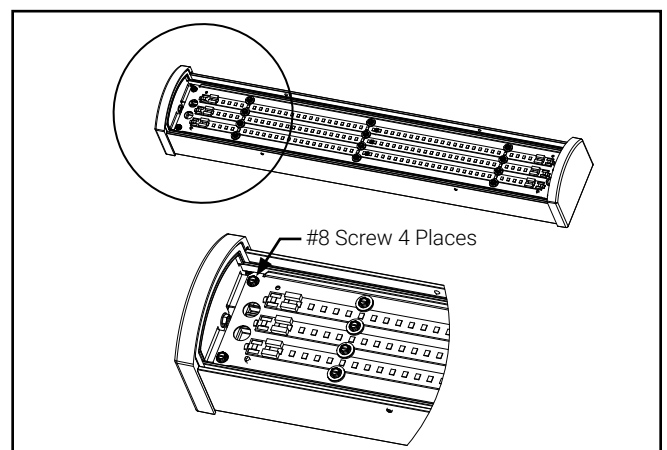

Figure 2.
3. Remove LED gear tray from housing. Remove 4 screws on ends of gear tray to allow access to inside of channel for mounting and wiring (Figure 2).